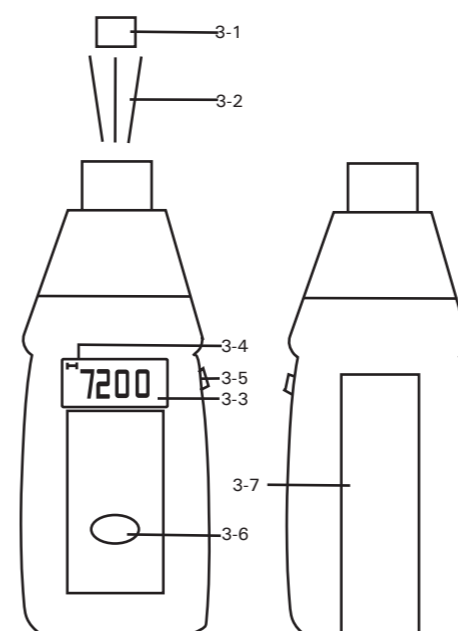

Fig 1
Apply a reflecting mark to the object being measured. Depress the "Operation button" (3-5 Fig 1) and align the visible "photo signal Light beam" (3-2 fig1) with the applied target. Verify that the "Target indicator" (3-3 fig 1) lights when the target passes through the light beam. Release the "operation button" when the reading stabilizes (about 2 seconds).
1) The minimum, maximum and the last (final) readings are automatically stored during measurement. These values can be recalled anytime by pressing the "Memory call button" (3-6 fig 1).
Release the "operation button" (3-5 fig 1) first.
- Press the "memory call button" (3-6 fig1) once to display the last reading. The symbol "LA" will appear on the display.
- Press the "memory call button"(3-6 fig1) once again to display the maximum value. The symbol "UP" will appear on the display.
- Press the "memory call button"(3-6 fig1) once more to display the maximum value. The symbol "DN" will appear on the display.
- 2) Open the "battery cover" (3-7 Fig. 1). Inside the battery compartment, replace with new batteries and reinstate the cover.